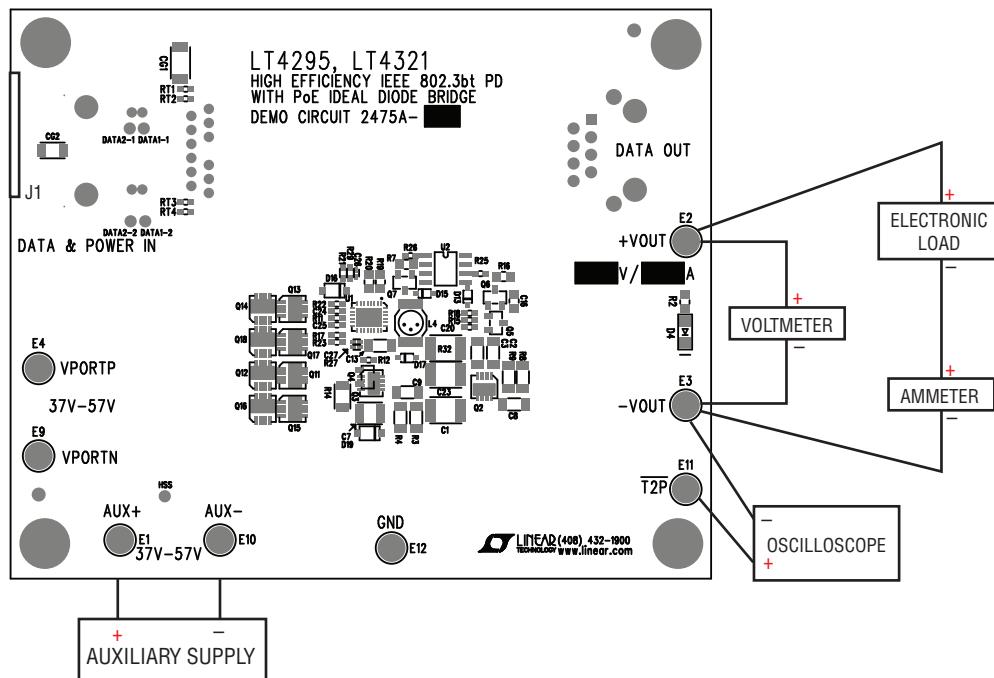

Figure 9: Setup Diagram for Auxiliary Supply Input
1. Place and connect test equipment (voltmeter, ammeter, oscilloscope, and electronic load) as shown in Figure 9.
3. Connect the output of the auxiliary supply to the DC2475A as shown in Figure 9. Turn on the auxiliary supply and set its current limit to 2A. Then increase its output voltage to 48V.
6. Verify T2P response with an oscilloscope as shown in Figure 9. The T2P response during auxiliary power operation is provided in Table 2.